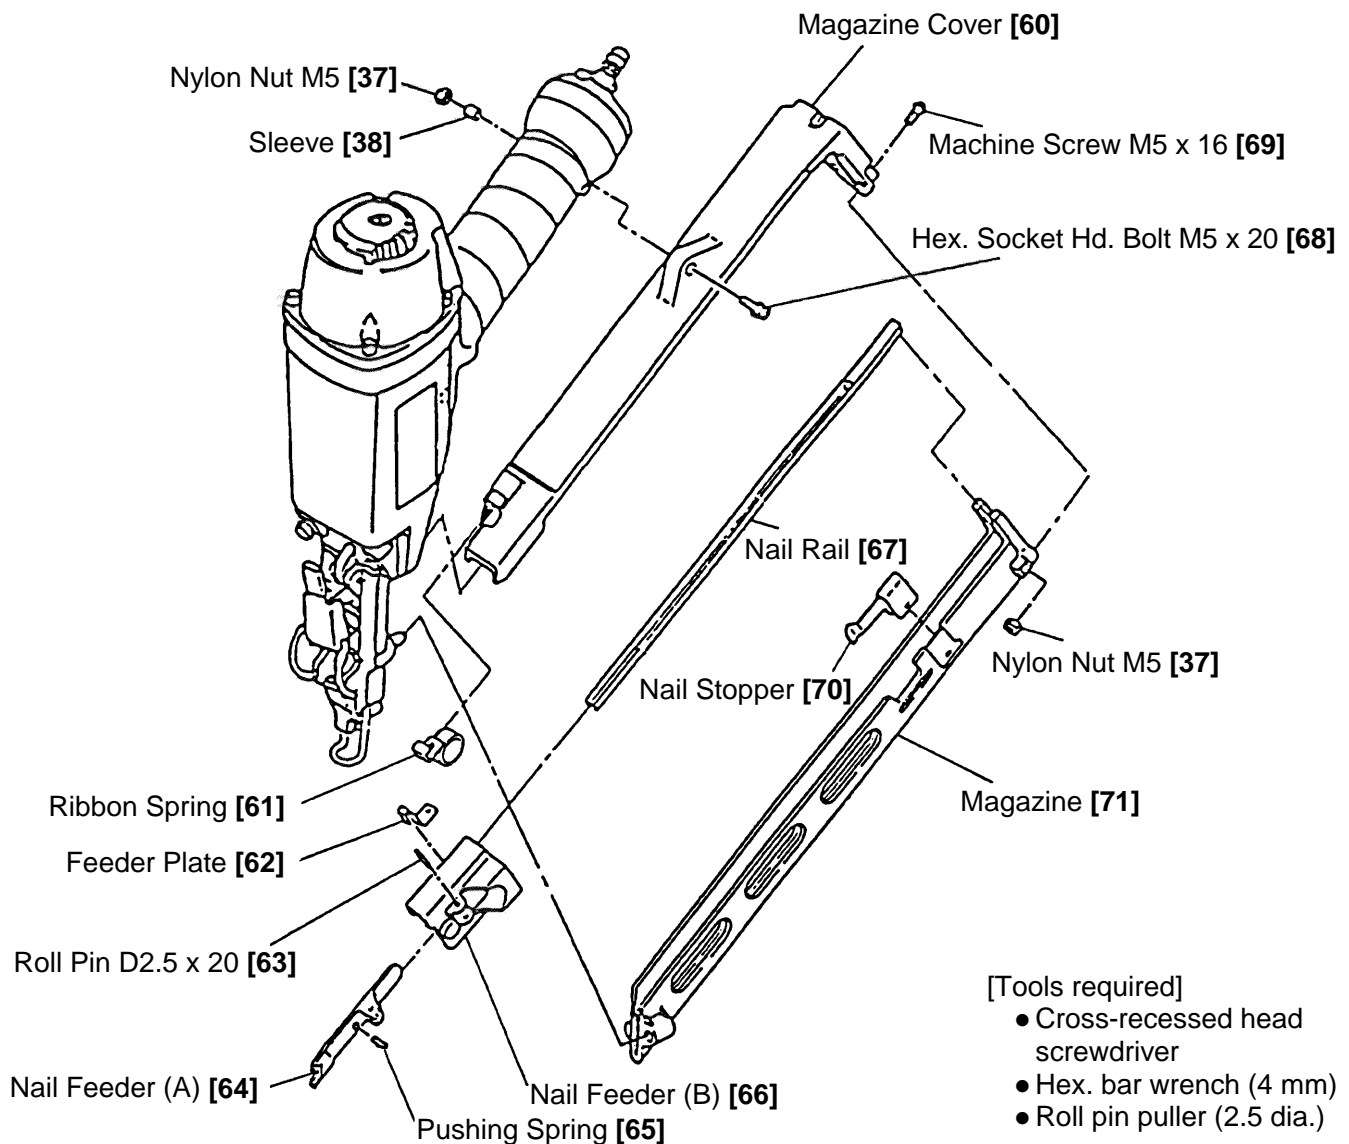

Fig. 20 Disassembly and Reassembly of the Magazine Section
(2) Disassembly and Reassembly of the Magazine Section (See Fig. 20.)